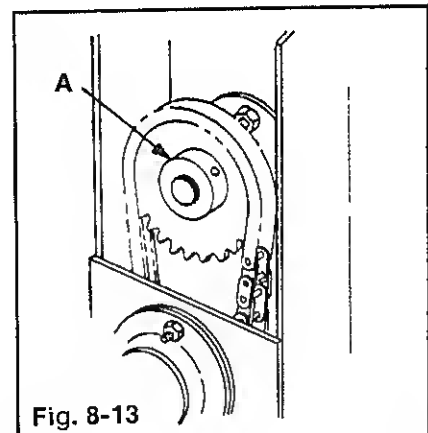
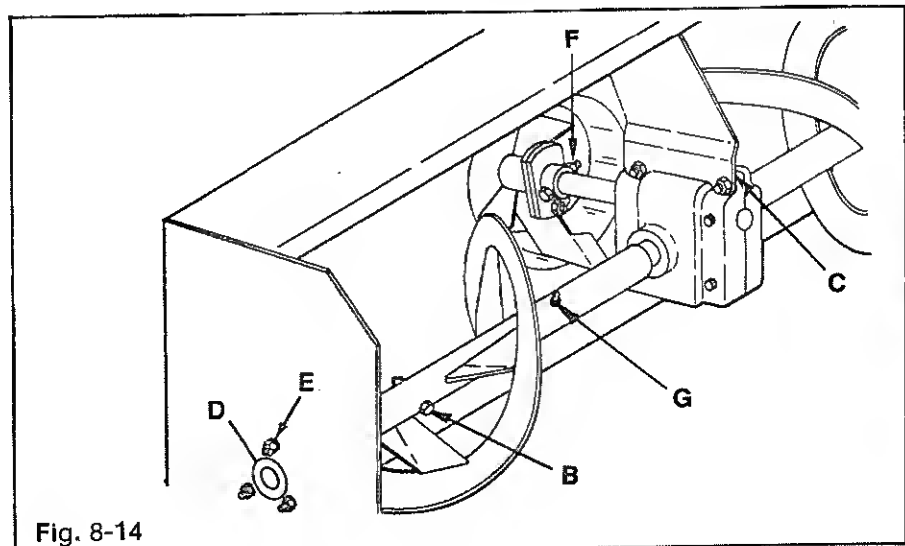

Fig. 8-13
Fig. 8-14
1. Loosen sprocket (A) Fig. 8-13 set screws and locking collar set screws behind sprocket. Loosen locking collar by turning.
2. Remove the (2) hex screws and lock washers (B) Fig. 8-14 of auger shaft.
3. Dissassemble gear box from housing support (C).
4. Loosen both set screws and locking collars of housing bearings (D).
5. Remove (6) carriage bolts, lock washers and hex nuts (E) securing housing bearings.
6. Slide gear case as far as possible to the right side and remove the entire auger shaft assembly. Disassemble rear sprocket (A) Fig. 8-13 and key in shaft as complete shaft assembly is being removed.
7. After removing the gear case and auger, disassemble coupling (F) Fig. 8-14 from shaft.
2. Secure fan assembly coupling (F) in place.
3. Place both end housing bearing assemblies (D) onto auger shaft.
4. Insert complete assembly into housing. Assemble square key and sprocket (A) Fig. 8-13 onto rear gear box.
5. Secure gear case to housing support (C) Fig. 8-14.
6. Secure flange bearings (D) to end housings.
8. Tighten locking bearing collar behind sprocket (A) Fig. 8-13 and tighten set screws.
9. Line up rear sprocket (A) and secure with set screws.
10. Tighten locking collar and set screws on each end housing bearing (D).